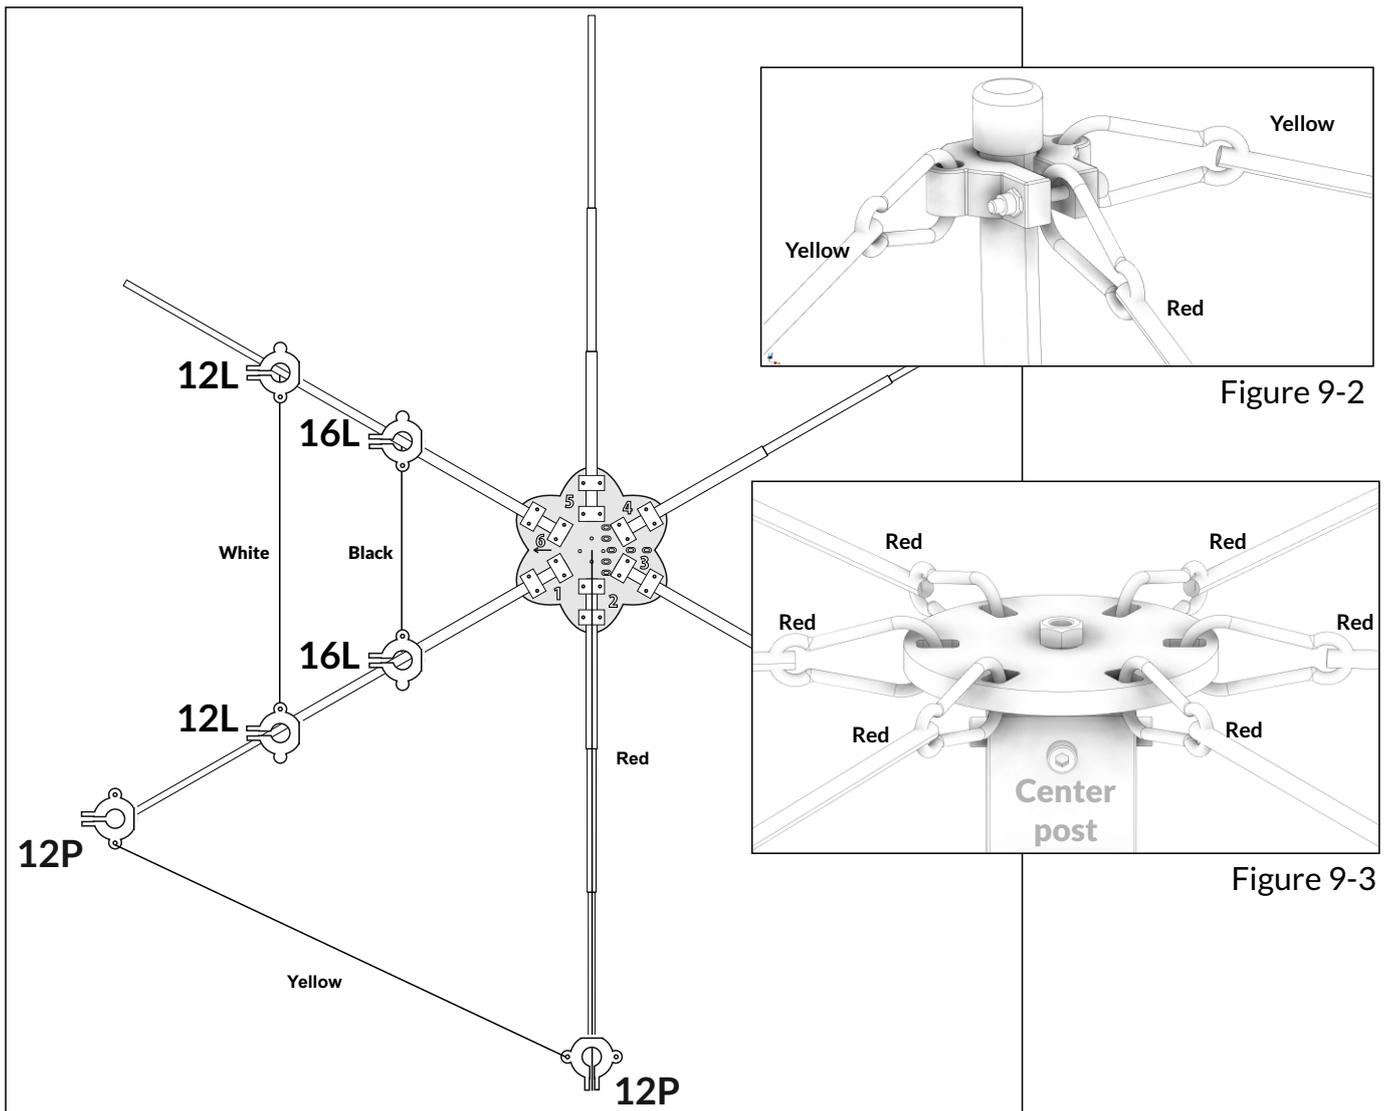

Figure 9-1
- > The **6 yellow marked ropes** are used to connect the tips of the **12P** brackets (those with 2 holes) with each other between the 6 poles (figures 9-1 and 9-2).
- > The **black marked rope** connects the poles 1 and 6 in the **12L** brackets (figure 9-1).
- > The **white marked rope** connects the poles 1 and 6 in the **16L** brackets (figure 9-1).